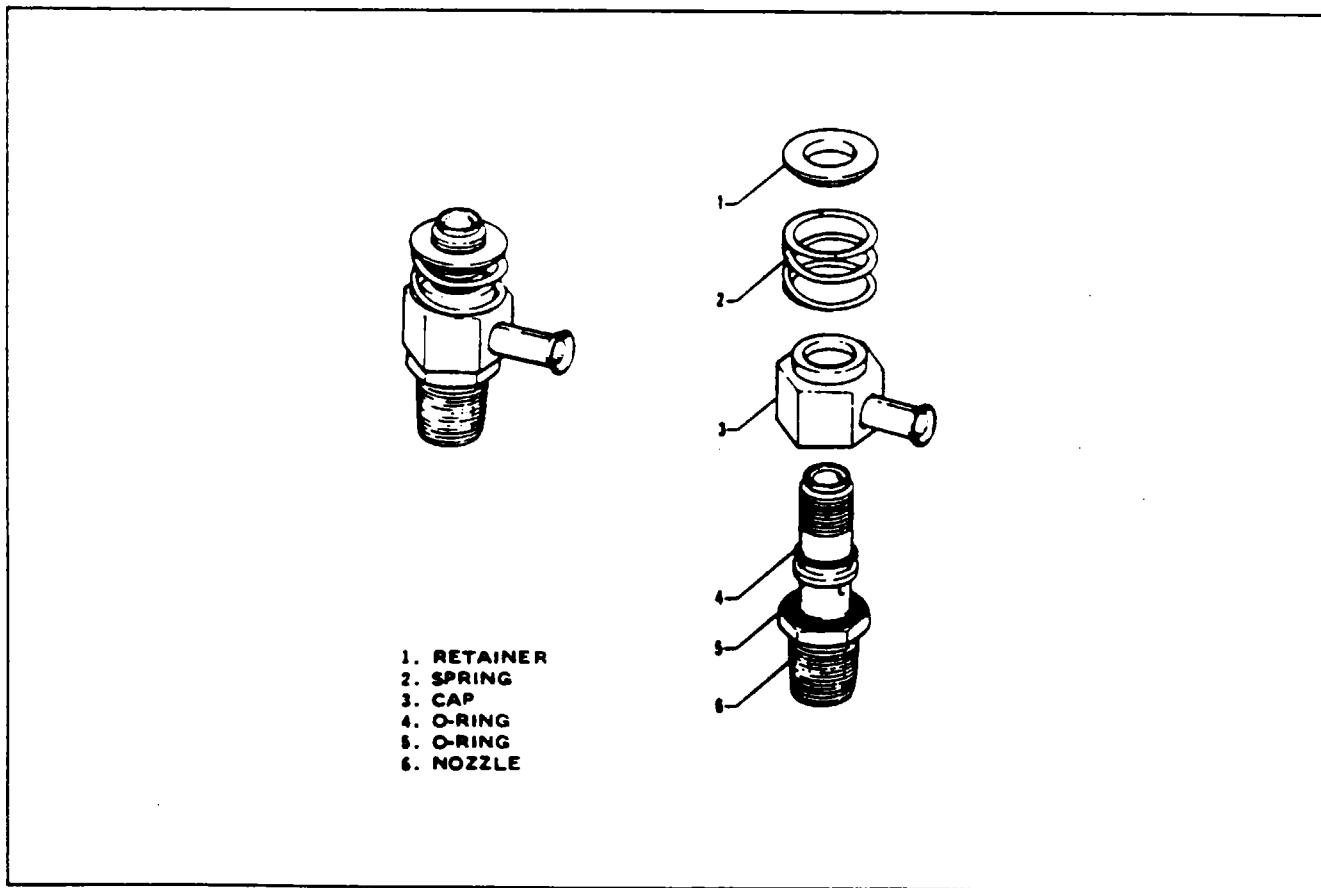

Figure 73-2. Fuel Air Bleed Nozzle
2. Ascertain that the O-rings are properly installed on the nozzle stem and install the nozzle shroud. (Refer to Figure 73-2.)